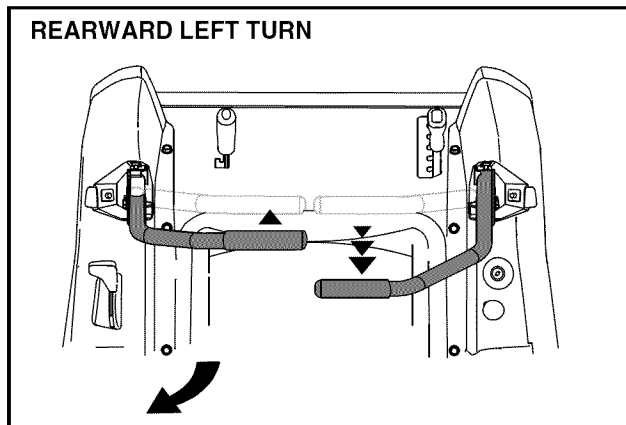

Figure 17
- To turn to the left while traveling in reverse, move the left drive control lever forward of the right lever. See Figure 17.